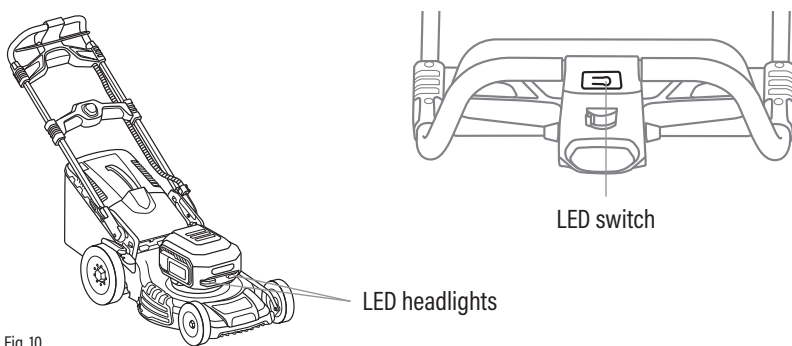

Fig. 10
1. Press the headlight button to turn on the lights (Fig. 10).